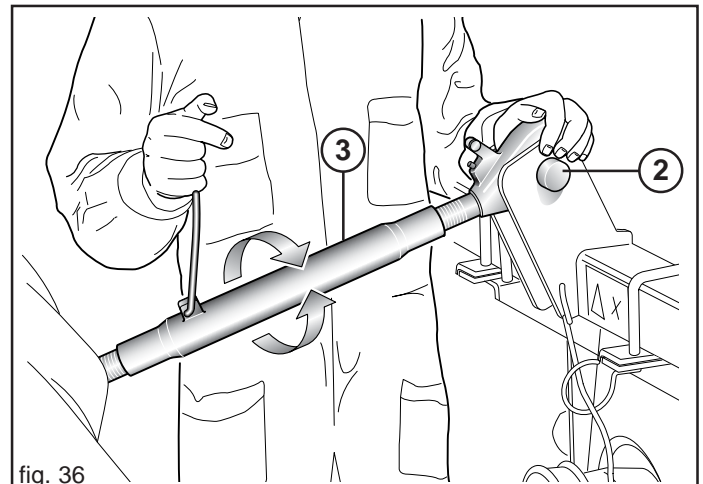
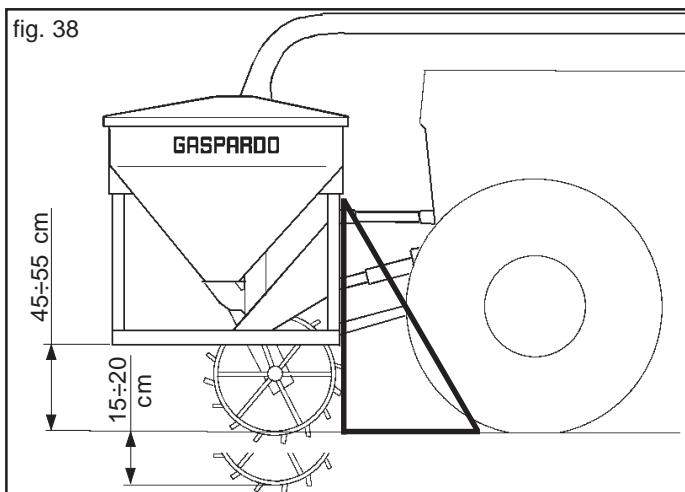

fig. 36
fig. 38
- 2) Connect the third upper point (2, Fig. 36); the pin will be blocked with the appropriate split pin; use the adjusting tierod (3, Fig. 36) to keep the equipment perpendicular to the ground (Fig. 38)
- 5) Raise the front machinery and remove the feet. In order to guarantee the rotation of the transmission wheel, adjust the working height of the machinery from the ground (45÷55 cm Fig. 38). This distance must remain constant during operation.
- 6) In working conditions, ensure that the driving wheel adheres to the ground. Use the chain rings (C), shown in Figure 42, to set a travel of about 15 to 20 cm (Fig. 38).